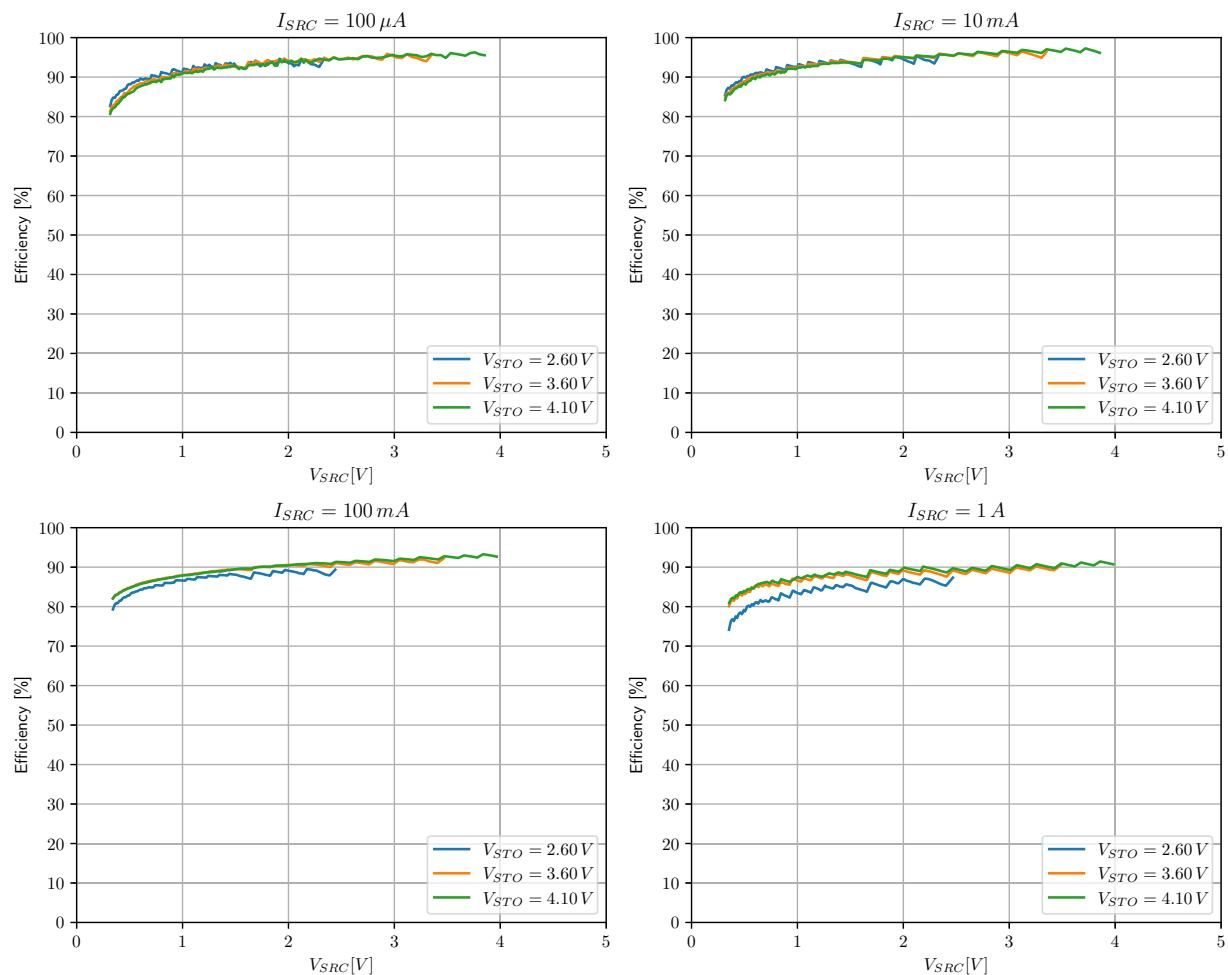
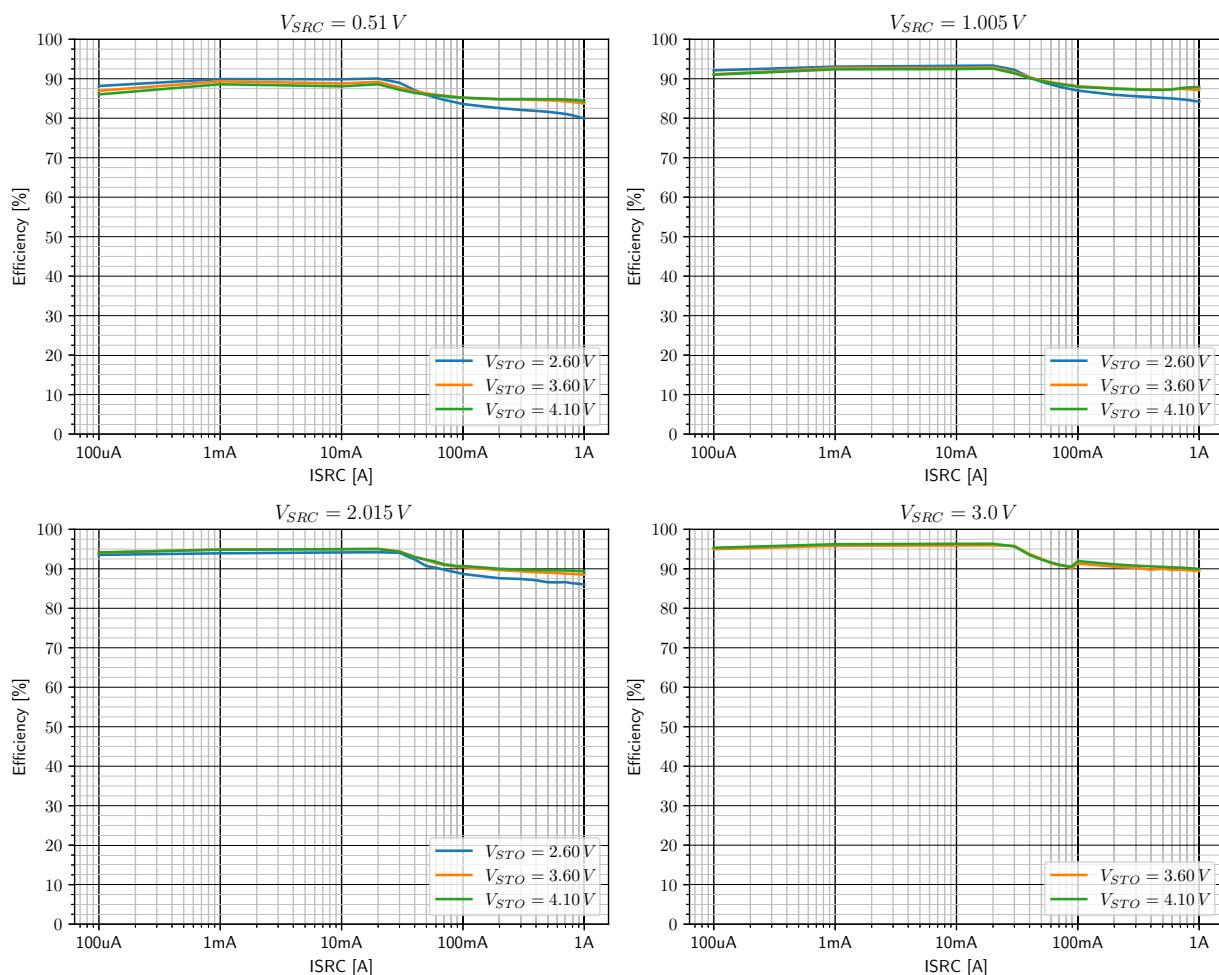

Figure 6: Boost converter efficiency vs. V_{SRC}
Figure 7: Boost converter efficiency vs. I_{SRC}
- Optional: a device able to act as an I^2C master and send I^2C commands to the AEM15820. Please note that, the results shown on Figure 6 and Figure 7 are with x3 boost timing for the BOOST_LP converter and x6 for the BOOST_HP converter.